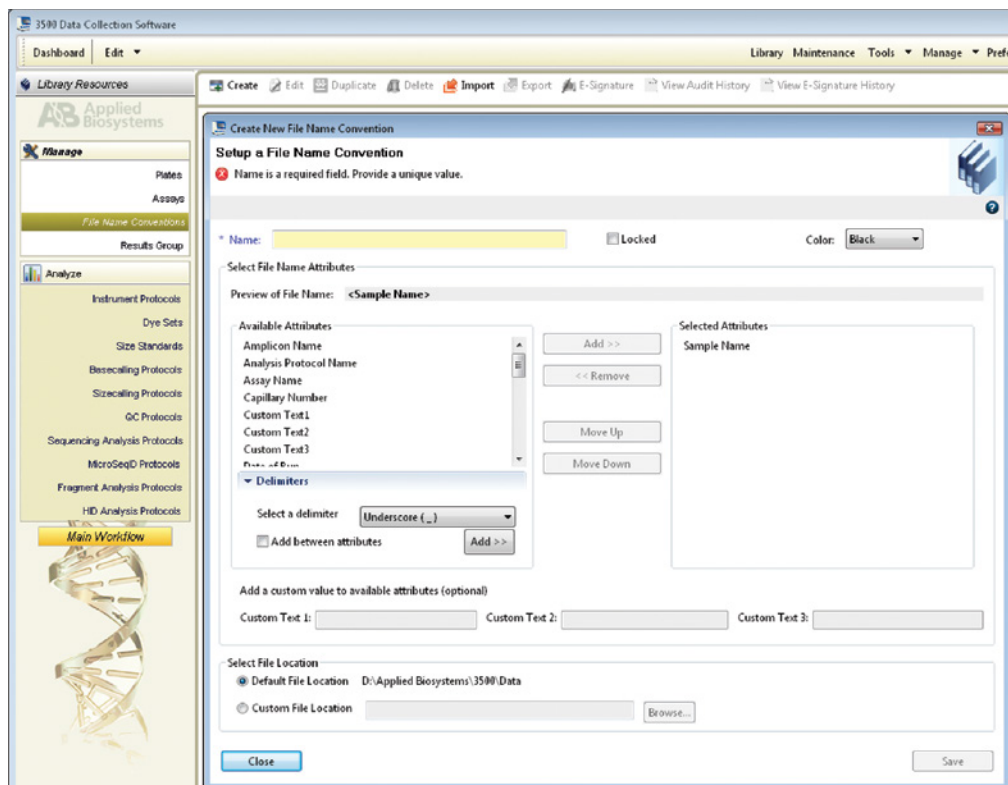

Figure 6. The ‘Create New File Name Convention’ window.
- 2.e. To create a new File Name Convention (Figure 6), navigate to the Library. Select **File Name Conventions**, then select **Create**. Alternatively, a previously created File Name Convention may be used.